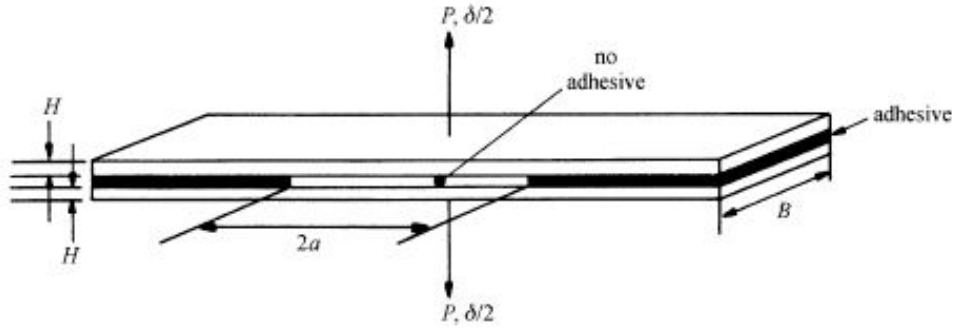

Figure 2: Geometry and loading of joined plates (image source: Suresh, Fatigue of materials)
3. A composite laminate is made by bonding two long thin strips of steel with an adhesive epoxy, as shown in figure 2. A patch of the adhesive was intentionally left out in the central section in order to create a central crack of length $2a$ in the bilayer plate. The joined plates are pulled apart by equal and opposite tensile forces, P . From beam theory, the deflection of a double cantilever beam of length L (half the crack length) under load P is $\Delta = \frac{PL^3}{192EI} \Rightarrow$